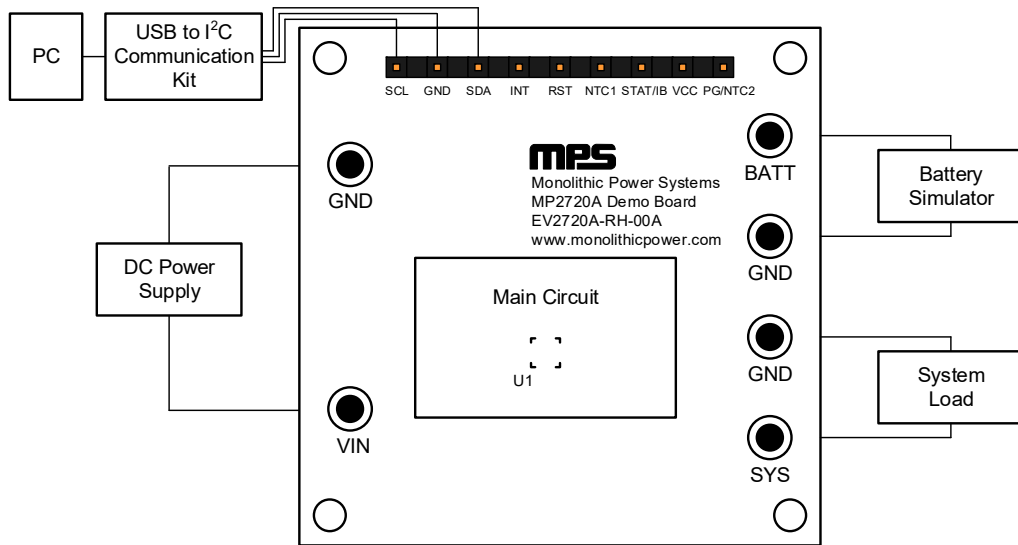

Figure 2: Measurement Equipment Set-Up
3. Configure the test set-up for the MP2720A (see Figure 2 on page 3).